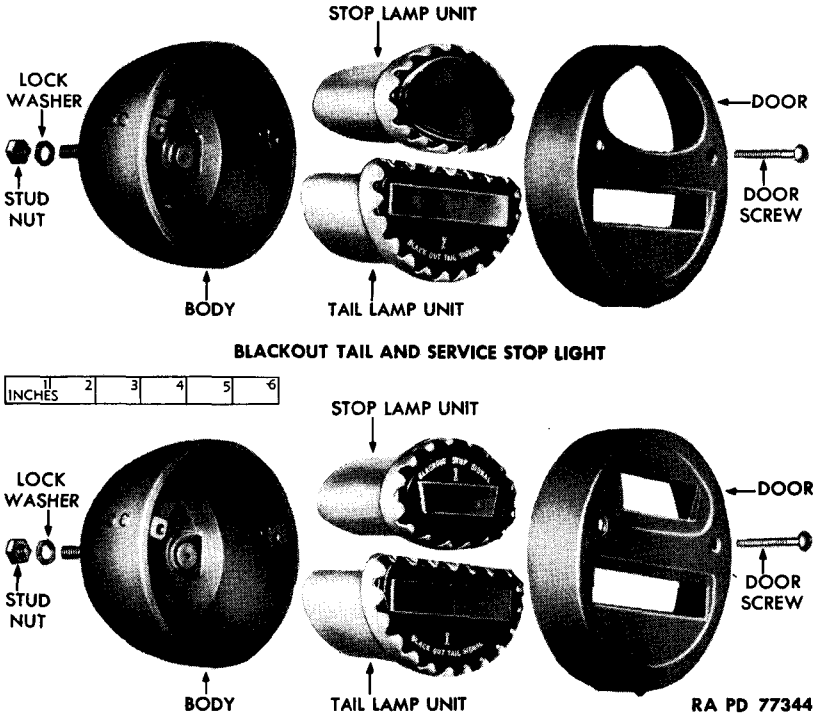

Figure 101 - Tail and Stop Lights Disassembled
(1) **DESCRIPTION** (fig. 101). The blackout tail and service stop light is attached to the frame rear crossmember at the left of the pintle hook. It contains two sealed beam lamp-units, each unit consisting of a lens, lamp, and reflector replaceable only as a unit. The blackout
(1) DESCRIPTION (fig. 101). This light is attached to the frame rear crossmember at right of pintle hook, and is similar to the blackout tail and service stop light, except that the blackout stop light emits a small triangle of shielded light visible only from rear.
(2) TABULATED DATA.